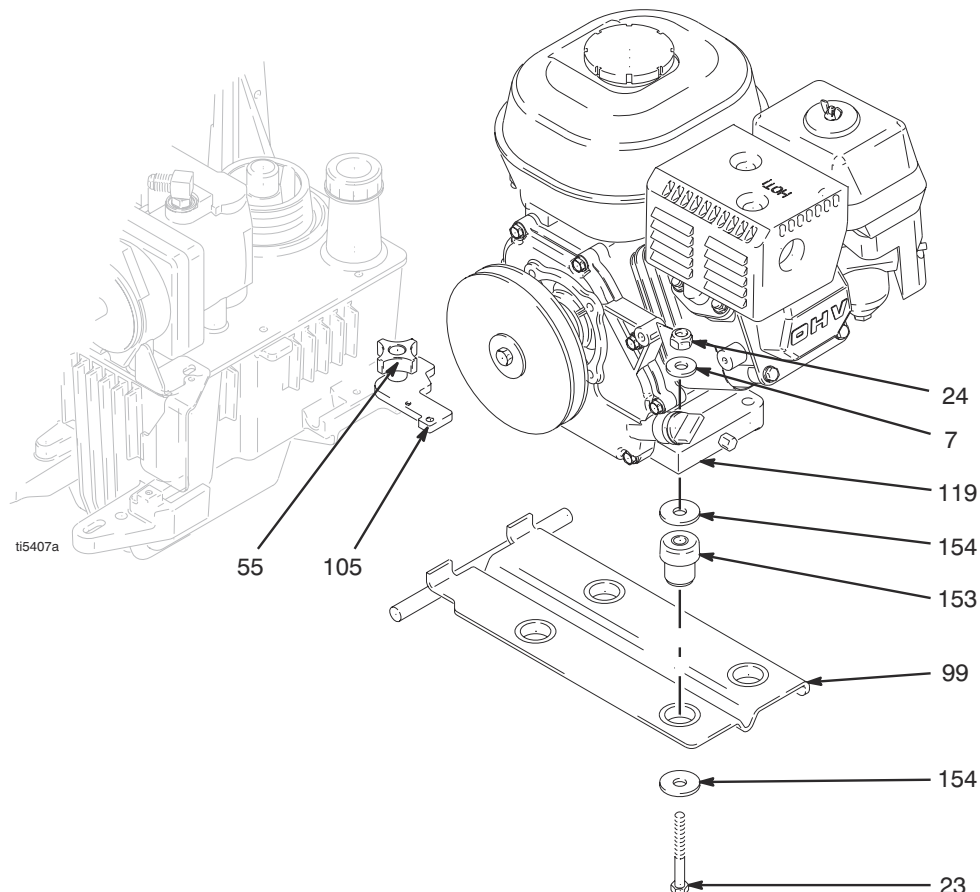

FIG. 4
2. Fig. 4. Loosen motor knob (55). Swing motor retainer bracket (105) out.
3. Remove engine (119) and rocker plate (99) from sprayer.
4. Remove four screws (23), washers (7) and nuts (24) and remove rocker plate (99), dampeners (153) and washers (154) from engine (119).